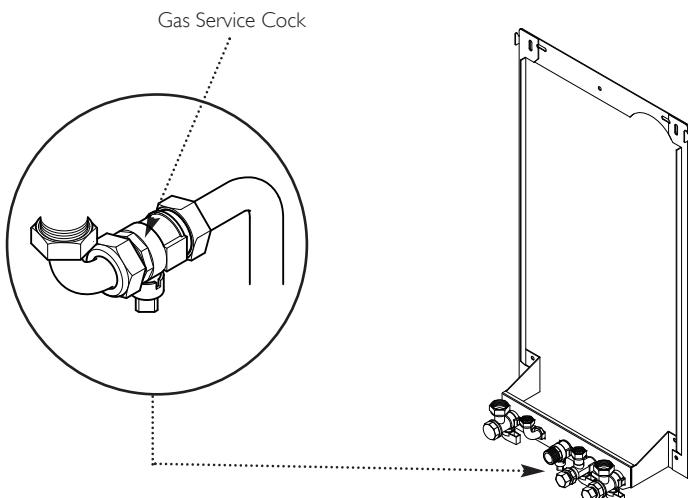

Fig. 10
- The connection to the appliance is a 22mm copper tail located at the rear of the gas service cock (Fig. 10).